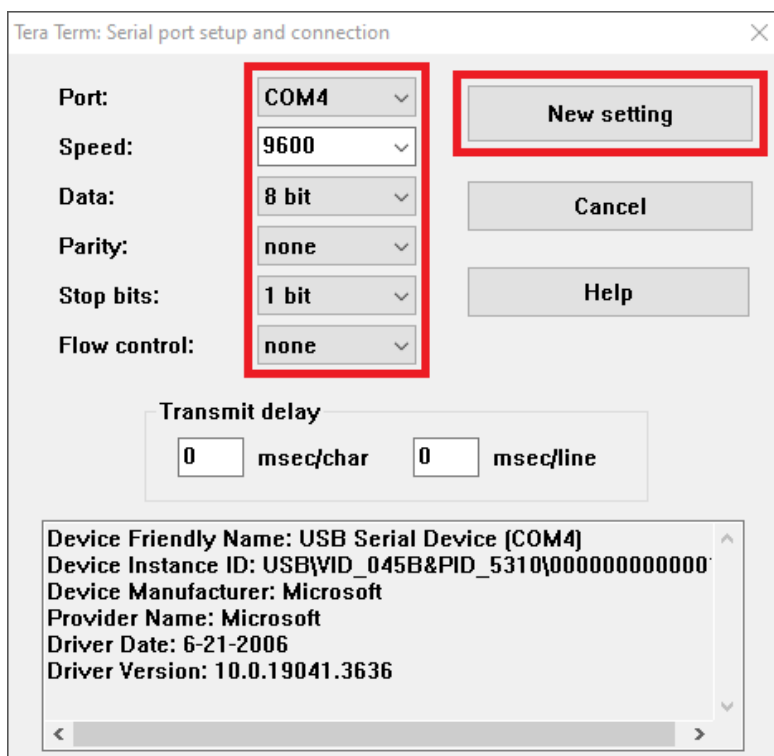

Figure 12. Tera Term Serial Port Setup and Connection Window
4. In the top menu of Tera Term, select **Setup > Serial Port**. In the window (Figure 12), verify that the connection settings match the values from Table 5 and click on the **New setting** button.